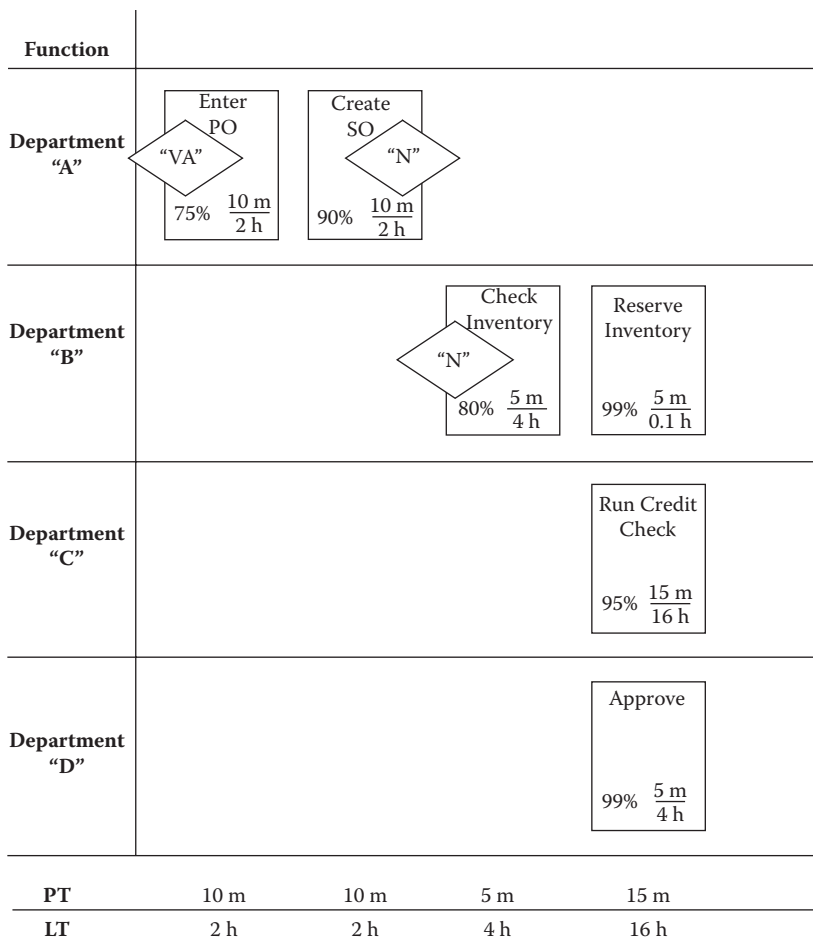

Figure 4.4 MBPM with value-adding and necessary non-value-adding labels.
As the team identifies the truly value-adding (VA) steps—which often comprise 10 percent or fewer of the process steps—a smaller Post-it with “VA” on it is placed below or next to the VA steps, as shown in Figure 4.4. Next, they will identify the necessary non-value-adding activities. Necessary non-value-adding activities are those that the external customer is not willing to pay for, but they are (1) essential for the organization to exist as a viable business entity or (2) essential for delivering value to the customer. You can think of this type of work as *value enabling*.